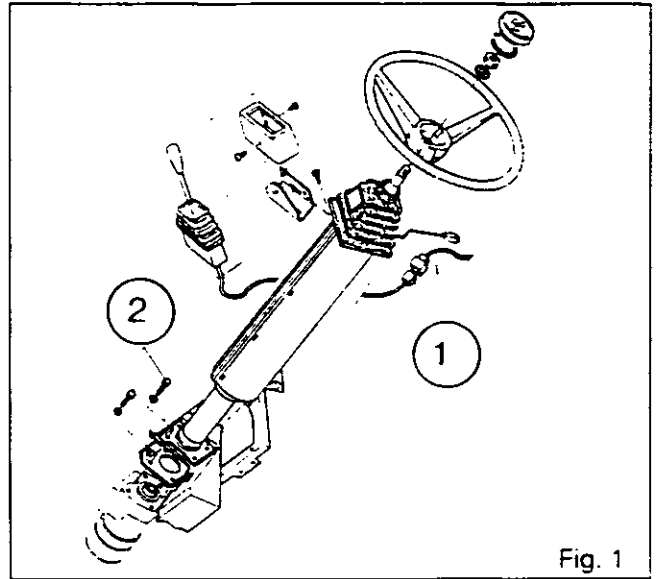

Fig. 1
3. On tractors equipped with a Dynashift gearbox, disconnect the control switch (1) located under the dashboard (Fig. 1).
4. Take out the bolts (2) attaching the base of the column onto the cab support (Fig. 1).